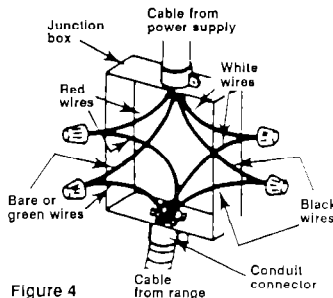

Figure 4
Four-wire power supply cord must be used in a mobile home installation. The appliance wiring will need to be revised. See Electrical requirements, Figure 4, Panel B. Copies of the standards listed may be obtained from:
3. Connect the two black wires, then the two red wires. See Figure 4.